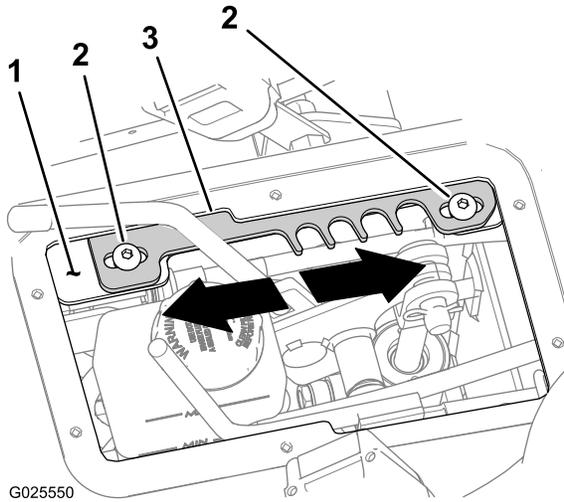

Figure 72
- Move the speed-range lever to the **T** (transport) position (Figure 72).
- Loosen the 2 hex-socket screws (5/16 x 3/4 inch) that secure the detent plate to the lever-support bracket (Figure 72).
- Move the detent plate **forward** to increase the maximum ground speed limit (Figure 72).
- Move the detent plate **rearward** to decrease the maximum ground speed limit (Figure 72).